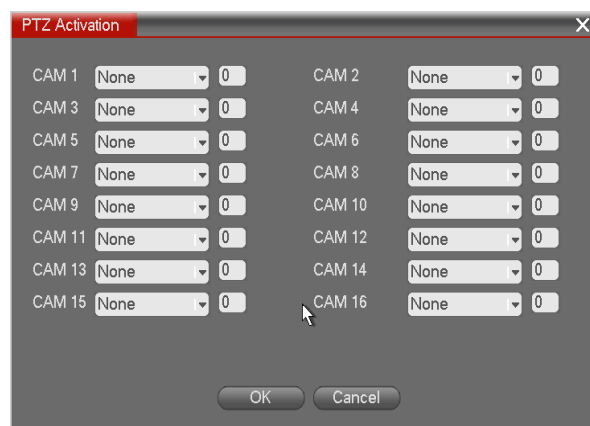

Figure 2-64
- PTZ activation: Here you can set PTZ movement when an alarm occurs. Such as go to preset, tour & pattern when there is an alarm. Click “select” button, you can see an interface is shown as in Figure 2-64.